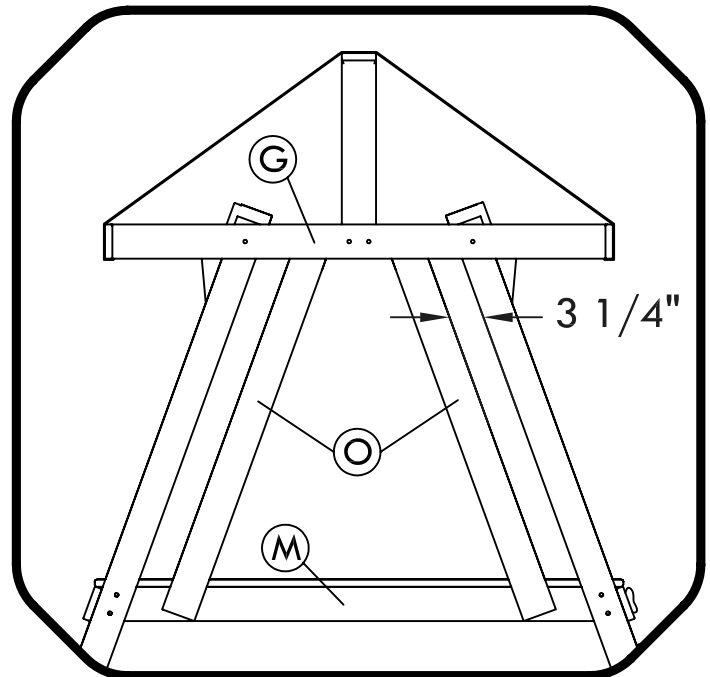

Fig. 16
Step 2: Attach one end of each Wall Slats 'O' to the inside of the Monkey Bar Cross Braces 'G' with (2) 1 1/4" deck screws and attach the other end to the outside of Angled Floor Supports 'M' with (2) 1 1/4" deck screws each. (the Wall Slat should be spaced 3 1/4" away from upright) See Fig 16.